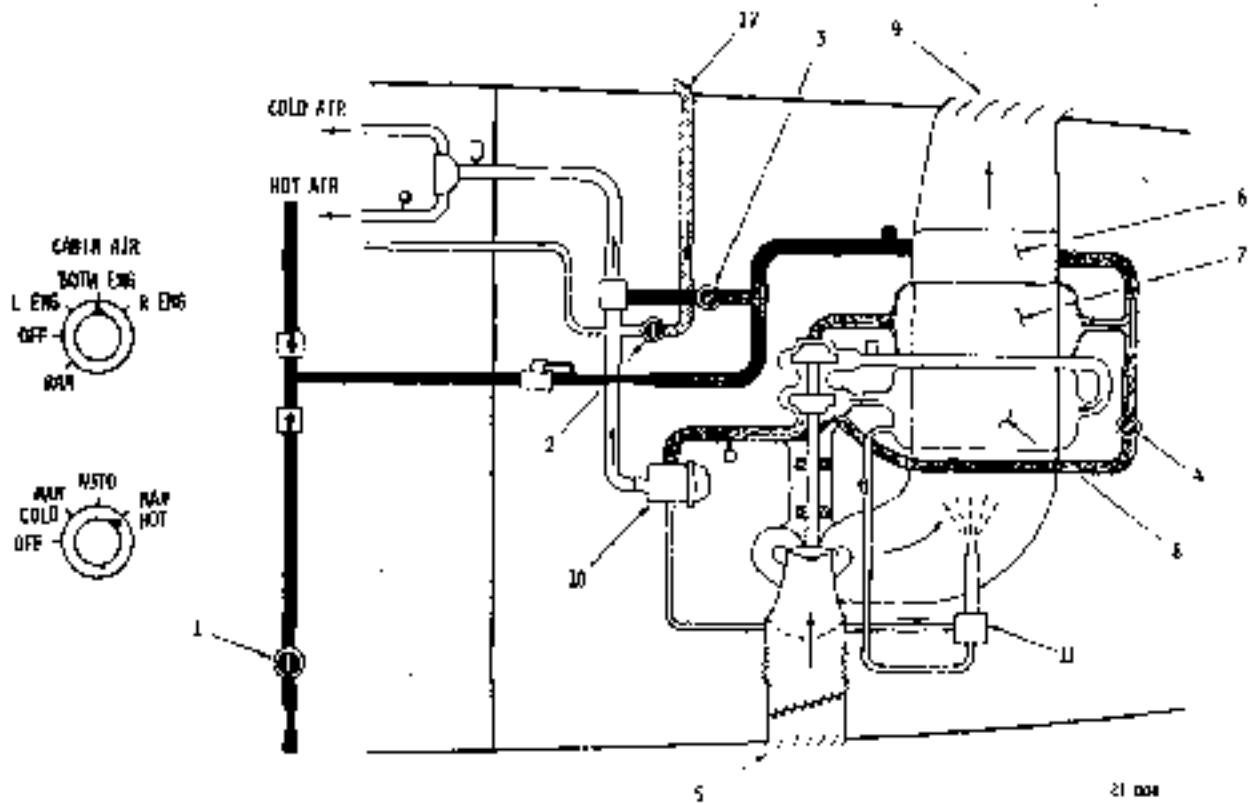
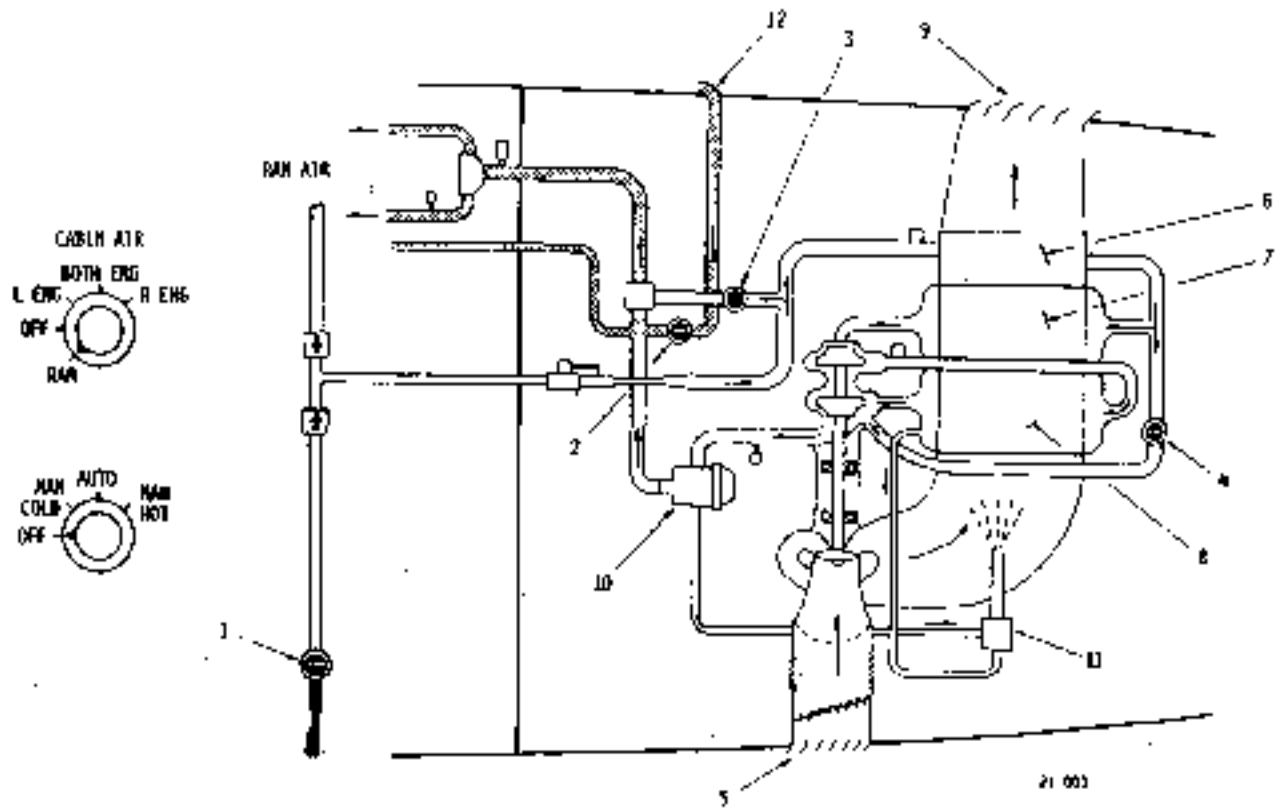

Fig. 8-18 Manual Heating Condition
Fig. 8-19 Ram Air Ventilating Condition
- (7) Set the selector switch in MAN HOT and make sure that hot air comes out of conditioned air outlet and cold air out of air outlet (see Fig. 8-18).
- (8) Return auto/manual selector switch to AUTO. After setting cabin temperature selector in optional position between HOT and COLD, set DEFOG COND selector knob of the forward conditioned air outlet to DEFOG and make sure that air comes out of front and side defog air outlets.
- (9) Turn the cabin air outlet select switch to CEIL and make sure that airflow from cabin conditioned air outlets decreases and comes out of ceiling outlet.
- (10) Set cabin air selector switch in RAM position and make sure that ram air comes out of conditioned air outlets (see Fig. 8-19). However, the amount of ram air during ground operation is not sufficient; therefore, the opening and closing operation of ram air shutoff valve and other valves of this system should be checked thoroughly.
- (11) Return switches and knobs to OFF or their original positions, and stop engines.